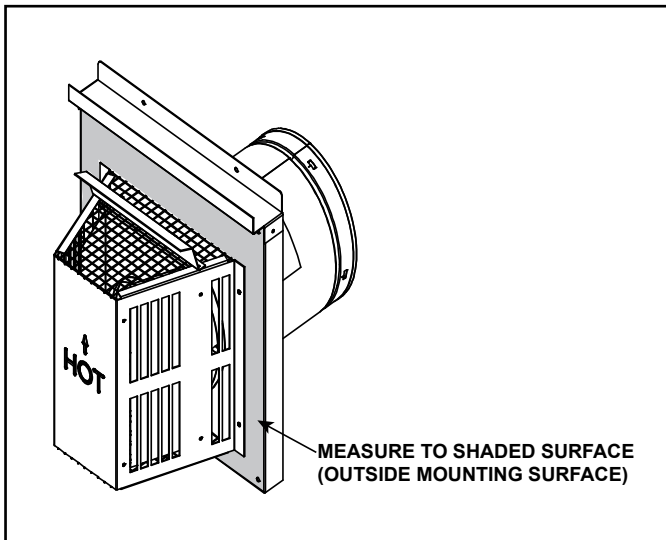

Figure 4.7 Measure to Outside Mounting Surface
- Horizontal terminations are measured to the outside mounting surface (flange of termination cap) (see Figure 4.7).